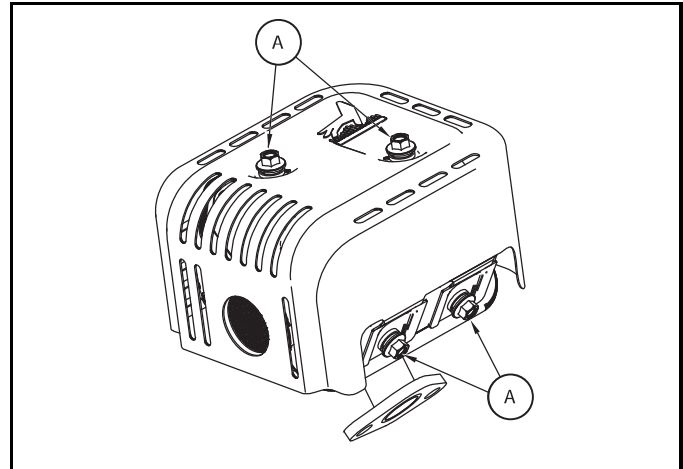

Figure 6-10. Remove Heat Shield
1. Remove heat shield from the muffler by loosening the four (4) Bolts (A) (Figure 6-10).